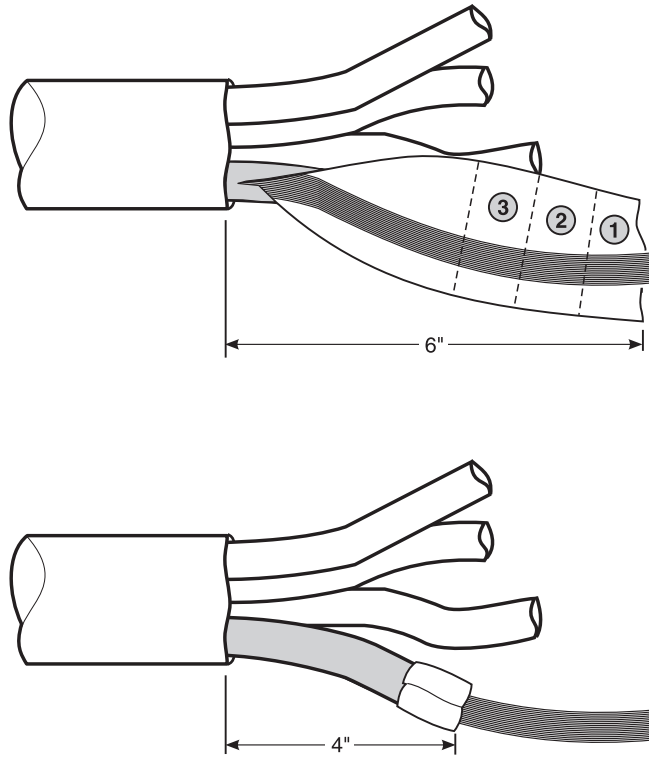
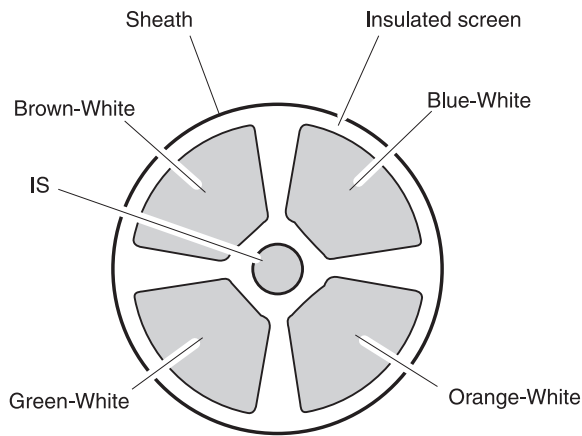

Figure 8. Splice Preparation
Figure 9. Cross Section of Quad S-Screened Stub at Splice
The gel-filled, screened, 54-pair, 24-AWG cable stub on the List 1 unit is equivalent to an ALP FSS-PIC filled-core telephone cable. It has a foam skin insulation with a single, filled jacket intended for buried, aerial, and duct applications. Each conductor has a dual insulation consisting of an inner coating of natural, insulating-grade, high-density, cellular polyethylene covered by an outer skin of color-coded, high-density, solid polyethylene. Standard color codes are used for pair identification with color compounds chosen for electrical balance and permanency (See Figure 9 on page 12). The cable complies with the requirements of ANSI/ICEA S-84-608-1994. The outside diameter of the cable is 0.85 inches.
- 2 Prepare the cable sheaths to prevent sharp edges from damaging the DEPIC insulation according to the following steps. Figure 8 on page 12 shows the splice preparation. Figure 9 on page 12 shows the cross section of the stub.
- b Flatten the screen as shown in Figure 8 on page 12.